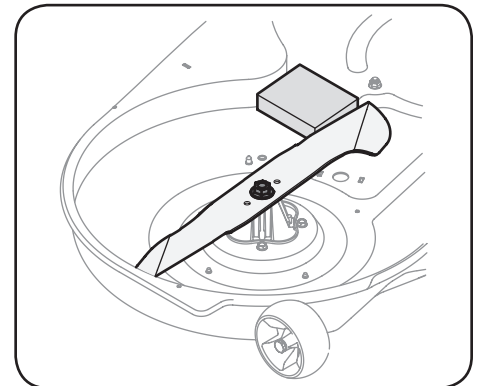

Figure 4-12
2. Place a block of wood between the center deck housing baffle and the cutting blade to act as a stabilizer. See Figure 4-12.
3. Remove the hex flange nut that secures the blade to the spindle assembly. See Figure 4-12.